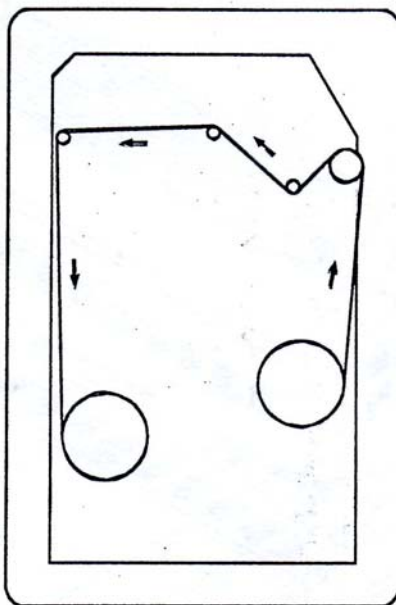

Figure 11
4. Feed the media through the laminator according to Figure 11.